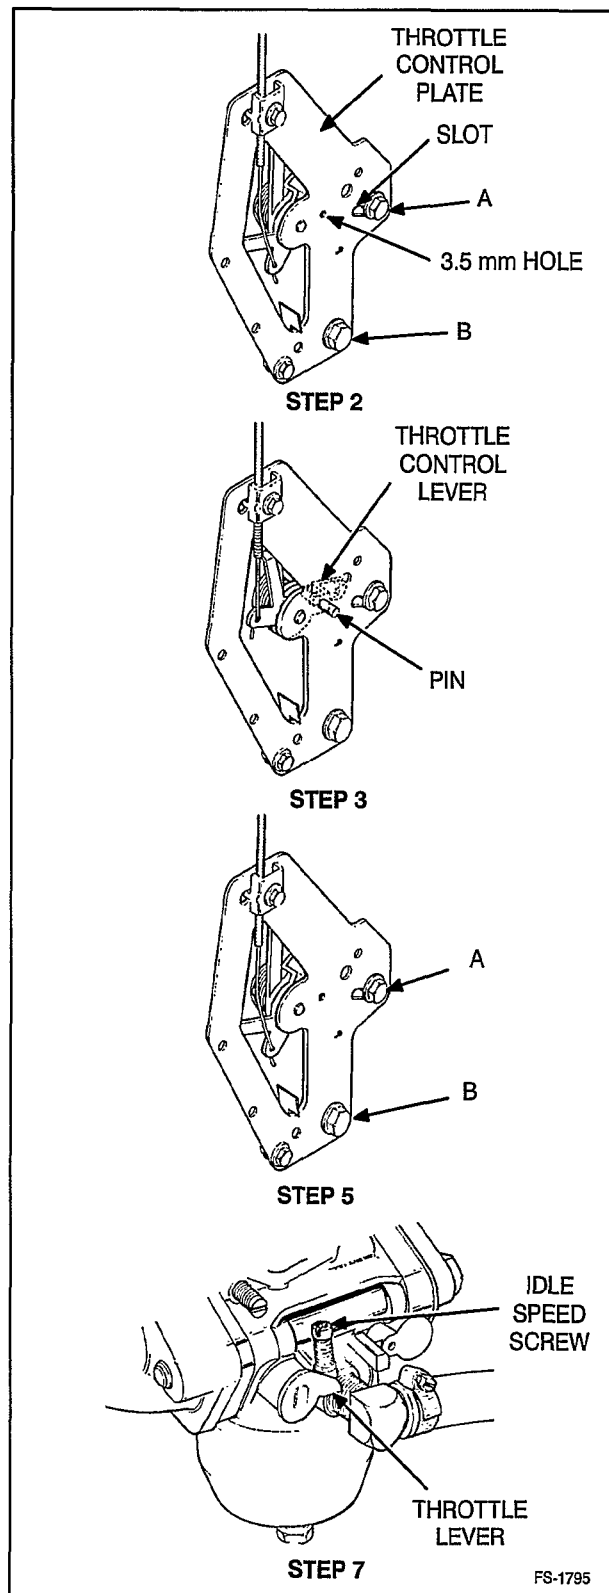

FIGURE 7. GOVERNOR AND CARBURETOR ADJUSTMENTS
2. Loosen bolts A and B just enough so the throttle control plate can move in the slot (Figure 7).
7. The low idle speed should be approximately 1400 rpm. Low idle speed is determined by the throttle travel distance. If the throttle lever (Figure 7) is resting against the stop when the throttle control is in the idle detent position, back off the idle speed screw $1/32$ inch (0.8 mm), so it no longer rests against the throttle lever.